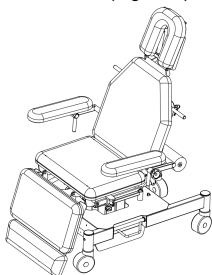

Figure 9
- Press button Line 5 on the handset to achieve one-click seat mode(Figure 9).